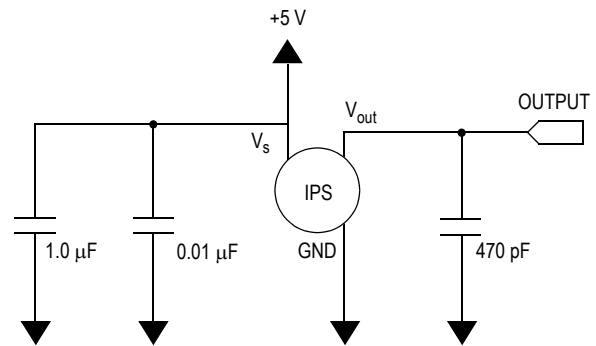

Figure 3. Recommended Power Supply Decoupling and Output Filtering
**Table 2. Operating Characteristics** ( $V_S = 5.0$  Vdc,  $T_A = 25^\circ\text{C}$  unless otherwise noted,  $P_1 > P_2$ . Decoupling circuit shown in Figure 3 required to meet specification.)
Figure 3 shows the recommended decoupling circuit for interfacing the integrated sensor to the A/D input of a microprocessor or microcontroller. Proper decoupling of the power supply is recommended.
Figure 4 shows the sensor output signal relative to pressure input. Typical, minimum, and maximum output curves are shown for operation over a temperature range of 0° to 85°C using the decoupling circuit shown in Figure 3. The output will saturate outside of the specified pressure range.